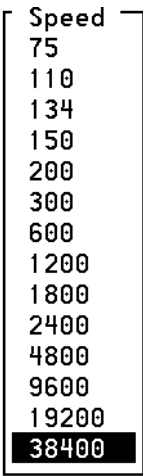

Figure 2-36. Speed Menu
- The system displays the Speed menu (Figure 2-36).